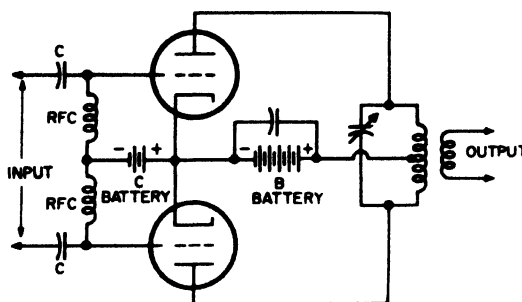

Fig. 40-6. The push-pull radio-frequency amplifier.
**The Push-Pull Amplifier.** As in the case of the audio-frequency amplifier, the radio-frequency amplifier may be operated in *push-pull* for greater power output. The push-pull circuit may be operated as a class C amplifier. Figure 40-6 shows a typical circuit.